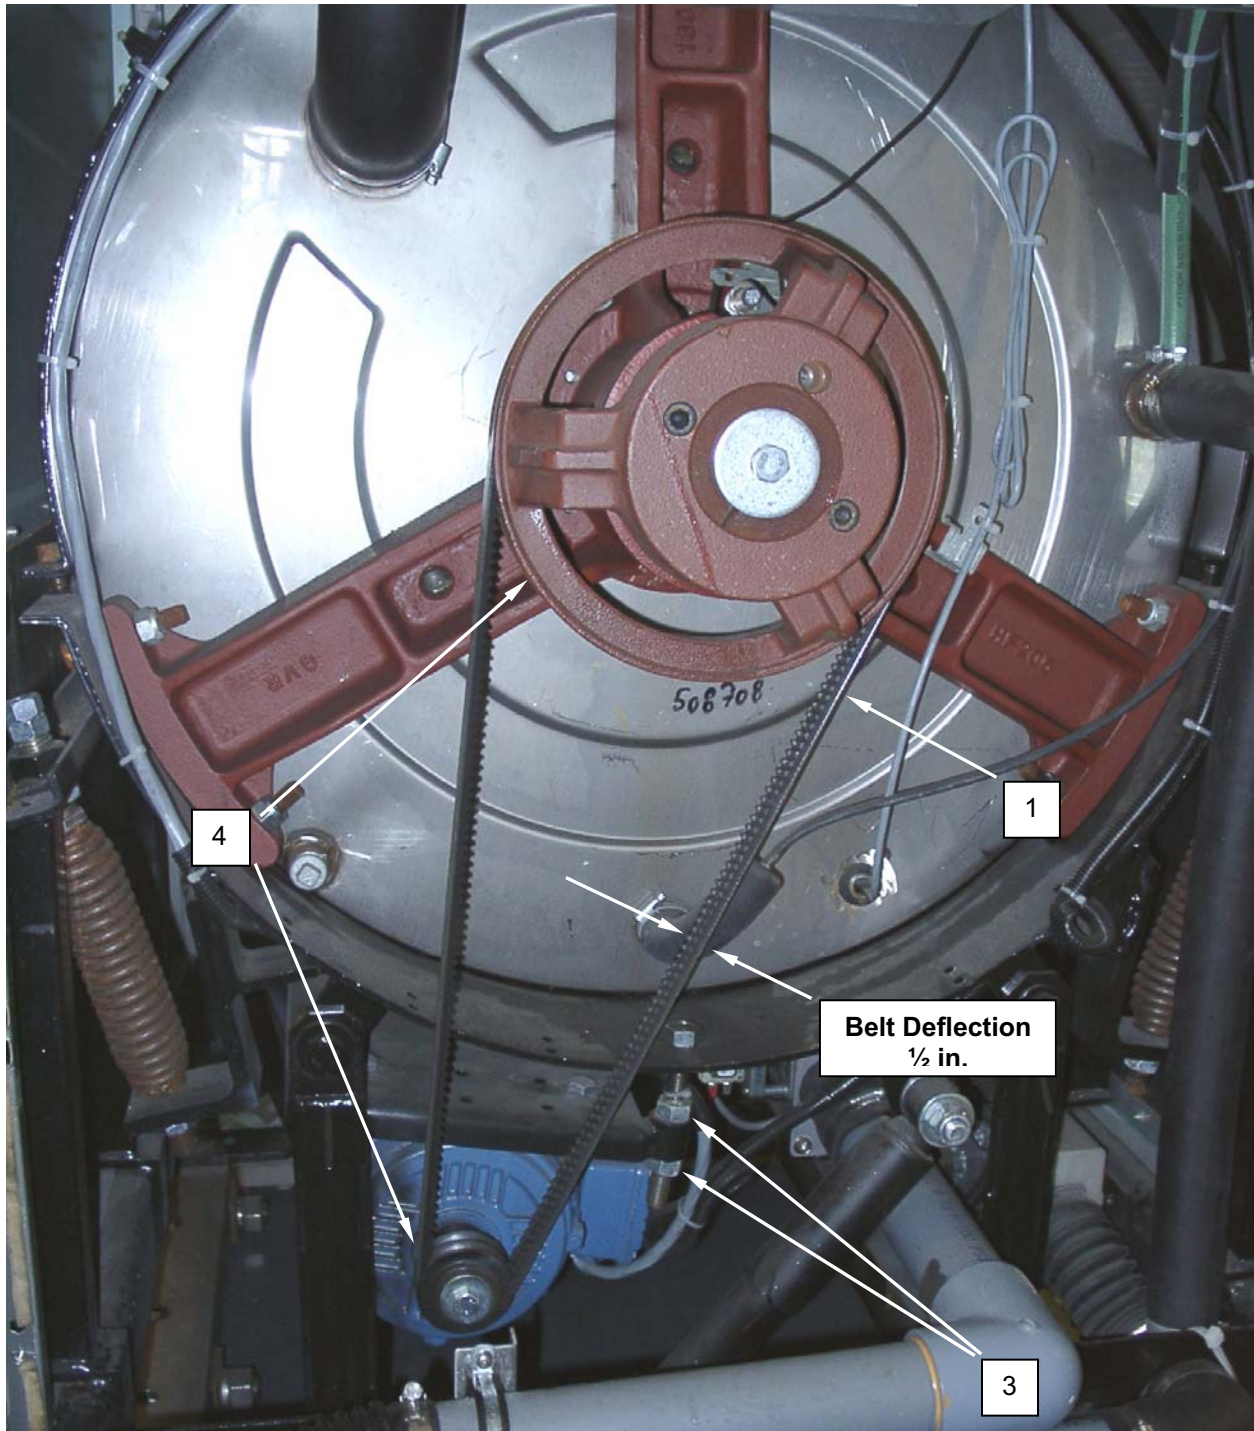

Figure 3. Replace the Washer Drive Belts.
2. Adjust and tighten locknuts (**Figure 3, Item 3**) on adjustment bolt as necessary to relieve tension on belts (**Figure 3, Item 1**).
3. Remove belts (**Figure 3, Item 1**) from pulleys (**Figure 3, Item 4**).
4. Install replacement belts (**Figure 3, Item 1**) onto pulleys (**Figure 3, Item 4**).
5. Adjust and tighten locknuts (**Figure 3, Item 3**) on adjustment bolt as necessary to ensure belt deflection is approximately $\frac{1}{2}$ inch.